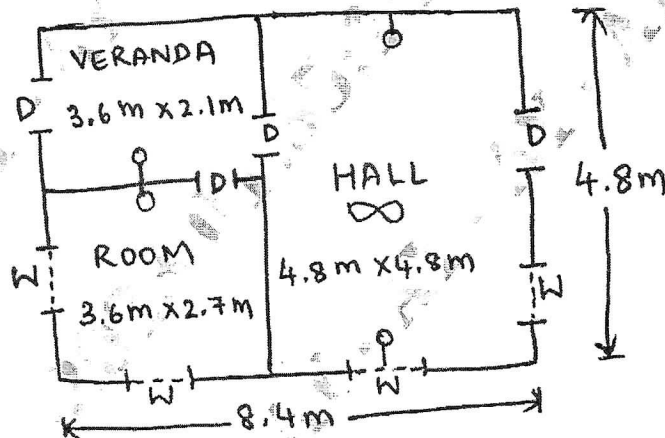

Fig Q3(b)
- b. Draw the electrical circuit and estimate the quantity of materials required for the wiring system. Chosen in a house plan shown in Fig Q3(b). Assume the height of ceiling as 3.6m and one plug point (60W) has to be provided in each room. All dimensions in m.